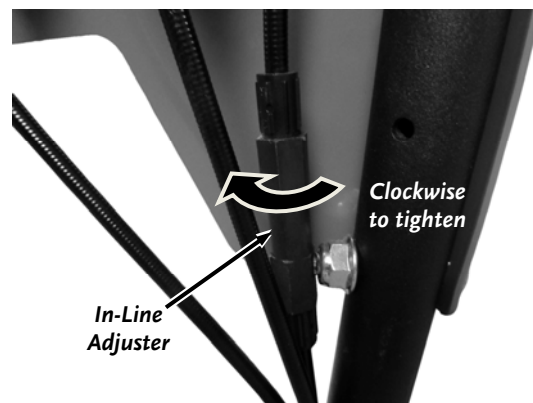

Figure 23
1. Locate the Traction Drive Cable along the right Handlebar (behind the Operator Panel). There is an In-Line Adjuster to change the tension on the Cable (**Figure 23**).